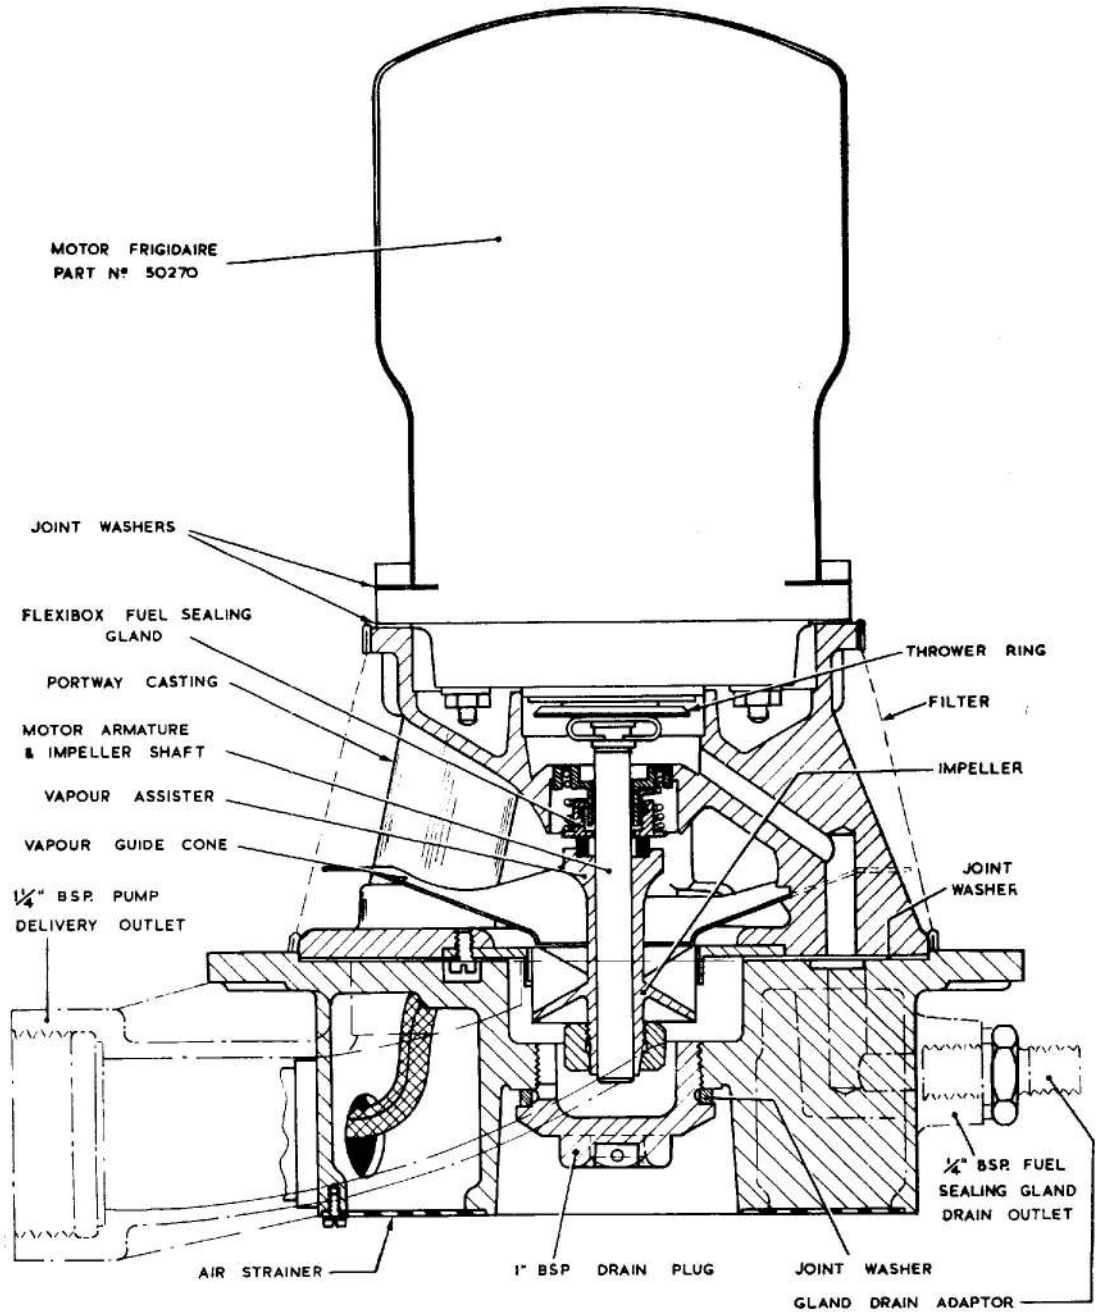

Fig. 2. Sectional view of PUL 403, Mk. I fuel pump
2. A sectional view of the pump is shown (*fig. 2*), and consists mainly of a driving motor, supported in the upper end of the pump body, or portway casting, which in turn is secured to the pump base assembly. A paper washer is provided as a joint, together with a Hermetical Wellseal jointing compound, between the upper face of the pump base, and the portway casting. Fourteen $\frac{7}{32}$ in. clearance holes, equally spaced around the flange, permit the pump to be bolted to the fuel tank, into which the body of the pump extends. Two $\frac{1}{4}$ in. B.S.F., tapped holes, diametrically opposite